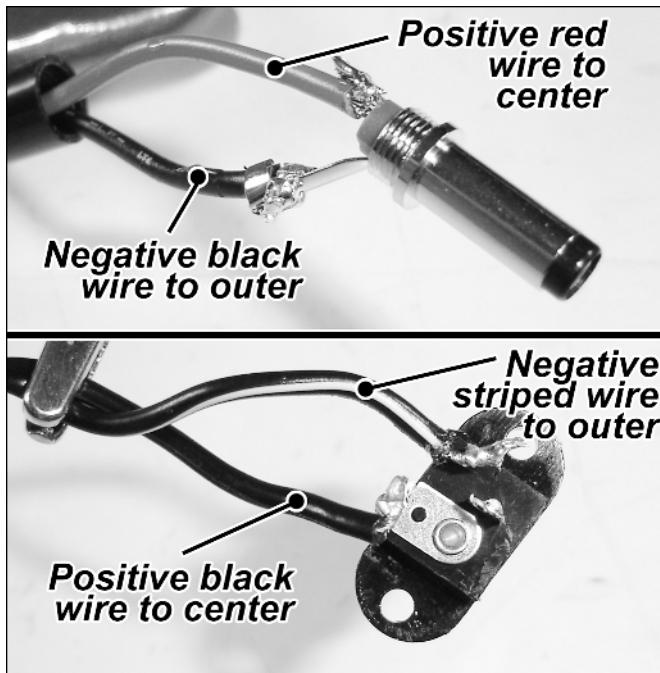

FIGURE 7-33: TOP: The plug replaced on the battery pack.
5. Now take the rechargeable battery pack itself, and snip off the white connector. Replace it with a size K coaxial power plug (Radio Shack catalog #274-1567a) as shown in Figure 7-33. The red wire goes to the center pin (positive), and the black wire to the outer pin (negative).